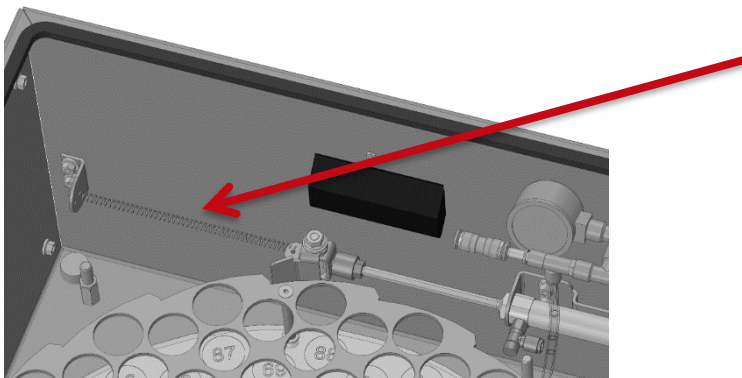

Figure 60. Change the spring of the drive cylinder
- Recoil spring of the drive cylinder see figure 60